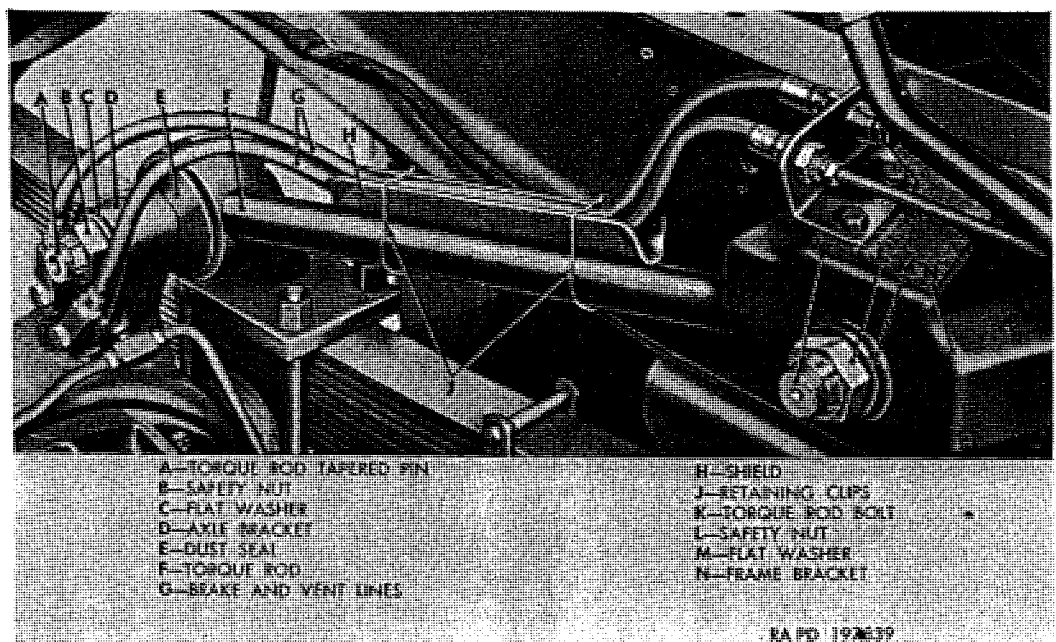

Figure 288. Upper torque rod installed.
- (4) Install 1-14 safety nut on torque rod bolt. Tighten nut to 190 to 250 pound-feet torque.
- (5) Install flat washer and 1-14 safety nut on torque rod tapered pin at axle end. Tighten nut to 350 to 400 pound-feet torque.
d. Upper Torque Rod Removal (fig. 288).
- (1) Jack up frame enough to relieve tension from springs.
- (2) Remove right fender and skirt assembly (par. 304b).
e. Upper Torque Rod Installation (fig. 288).
- (1) Place dust seal on both sides of torque rod bearing at frame bracket end. Position dust seal (E) over end pin at axle end of torque rod (F).
- (2) Position torque rod tapered pin (A) in axle bracket (D), being careful not to dislodge dust seal (E) from bearing.
- (3) Position torque rod end with seals in frame bracket (N). Install flat washer on torque rod bolt (K); then insert bolt through frame side member, frame bracket, and torque rod bearing.
- (4) Using a soft metal hammer, drive bolt into place. As bolt is driven through inner side of frame bracket (N), install flat washer (M), and 1-14 safety nut (L). Nut must be started on torque rod bolt (K) before bolt is fully seated. Tighten nut to 190 to 250 pound-feet torque.
- (5) Install flat washer (C) and 1-14 safety nut (B) on torque tapered pin (A) at axle end; then tighten nut to 350 to 400 pound-feet torque.
- (6) Position brake and vent lines (G) in shield (H) on top of torque rod. Secure lines in shield with two retaining clips (J).
- (7) Install right fender and skirt assembly (par. 304c).